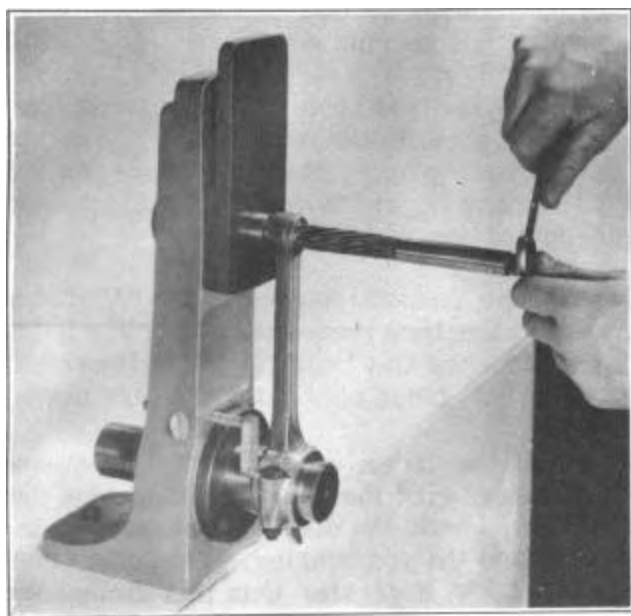

FIGURE 29
7. Insert reamer through connecting rod bushing and into pilot bushing, Figure 29.